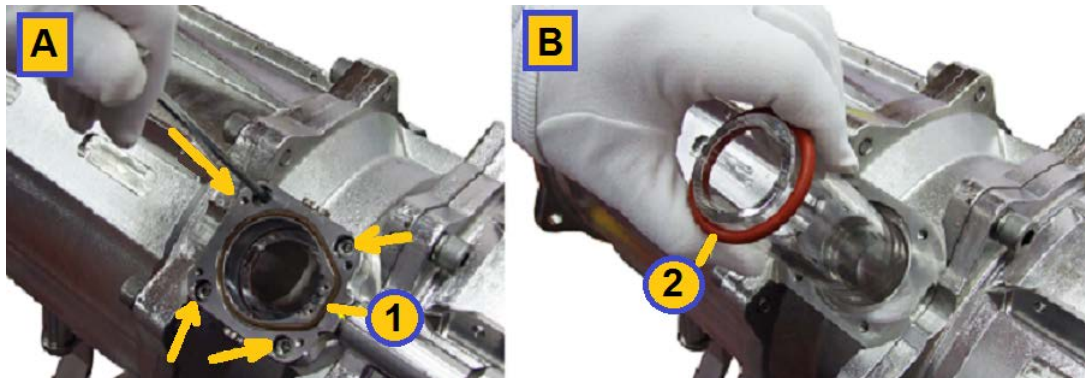

Figure 10-21: Replacing the Quartz Sleeve (Generic View 1)
- Two O-rings (See view B in Figure 10-21 below)
- Step 17.** Mount the new O-ring onto the quartz sleeve (as shown in view B in **Figure 10-21** above) and insert the sleeve into the Unit. Make sure it is centered.